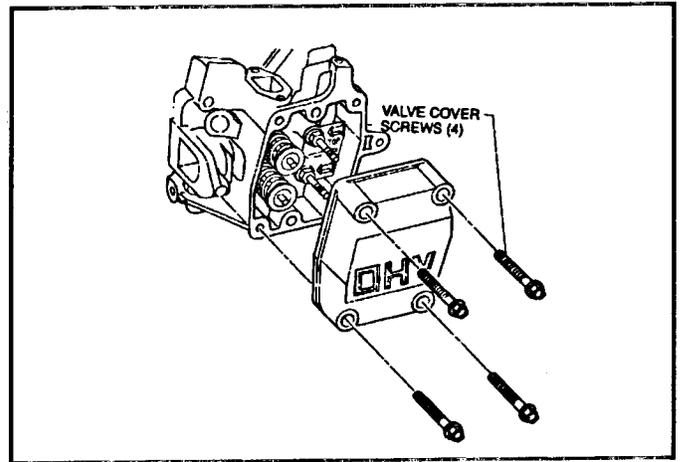

Figure 54
2. Remove the cover and gasket. See Figure 54.